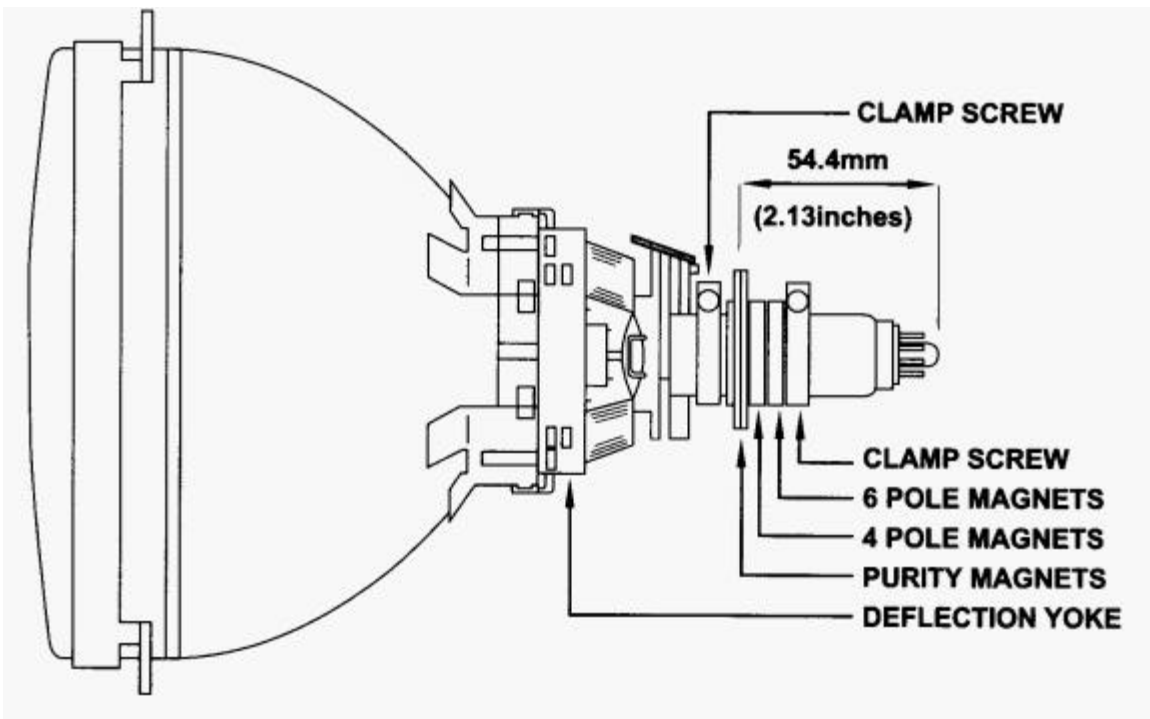

FIG. 3
1. Check correct location of all neck components. ( Refer to Figure 3 )
## STATIC CONVERGENCE ADJUSTMENT ( Refer to Figure 3 and 4 )
IMPORTANT: Before proceeding, make sure the location of the convergence magnet assembly on the neck of the CRT is as shown in Figure 3. The rear edge of this assembly must be positioned 65 mm from the tip of the CRT base. If not properly positioned, convergence adjustment may be difficult, if not impossible.